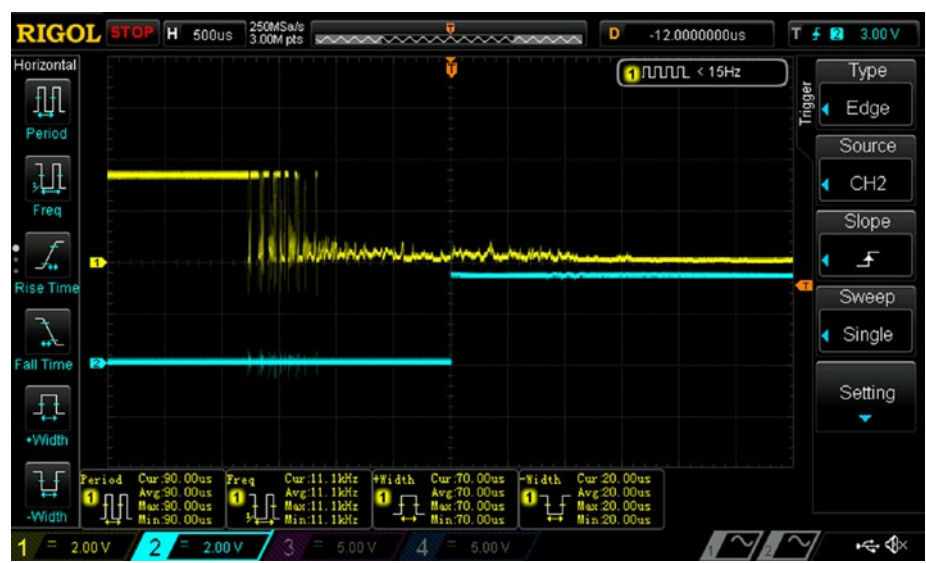

**Figure 14-3.** TestWait first interrupt
Figure 14-3 shows the results captured by my oscilloscope for the *first* of three switch closures. The top trace shows the GPIO pin monitoring the switch. The bottom trace shows the GPIO pin producing the output pulse. You can see that the time from the first visible edge of the switch signal to the leading edge of the pulse is approximately 1.8 milliseconds.
You can also see in Figure 14-3 the sad reality of dealing with mechanical switches. The switch contacts “bounce” for a while but eventually stabilize. This is a classic problem with mechanical switches – when is the switch *really* activated? For the switch I’m using, the bounce period appears to be somewhere between 500 microseconds and several milliseconds depending on the voltages the Raspberry PI GPIO uses to define low and high and for how long the voltage must be stable. That said, a very common expectation for a debounce period is up to 50 milliseconds.
**Tip** As you can see in Figure 14-3, mechanical switches “bounce.” You can find lots of information on the subject online. The following references offer some insight into why switches bounce, the implications, and how to handle bounce: [www.labbookpages.co.uk/electronics/debounce.html](http://www.labbookpages.co.uk/electronics/debounce.html), [www.allaboutcircuits.com/technical-articles/switch-bounce-how-to-deal-with-it/](http://www.allaboutcircuits.com/technical-articles/switch-bounce-how-to-deal-with-it/), and [www.eejournal.com/article/ultimate-guide-to-switch-debounce-part-9](http://www.eejournal.com/article/ultimate-guide-to-switch-debounce-part-9). `diozero` includes `com.diozero.api.DebouncedDigitalDevice` that successfully debounces some switches I tested, but not others (e.g., the switches in this chapter). You should be prepared to test your switches and even implement your own debounce approach.